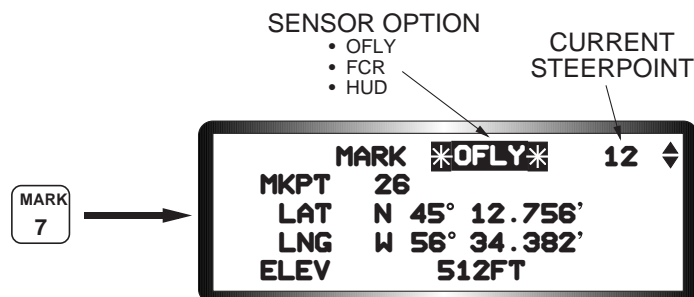

Figure 2-14 Markpoint DED Page
**Overfly Markpoint.** The pilot does an OFLY mark by flying over the desired point and pressing the MARK button (7) on the ICP (Figure 2-14). Assuming no other markpoints have been chosen, when MARK is pressed: